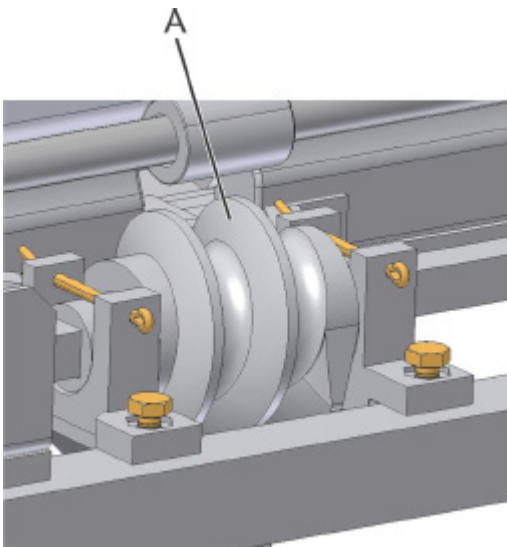
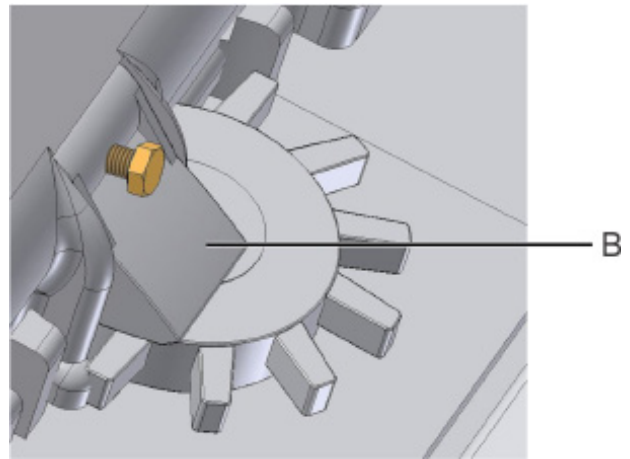

fig. 24
fig. 25
For maize cultivation, in the lines where the manure dosers are not being used, remove the drives (A) (fig. 24), leaving the dosers assembled and with the regulator (B) (fig. 25) closed to avoid manure leakage.